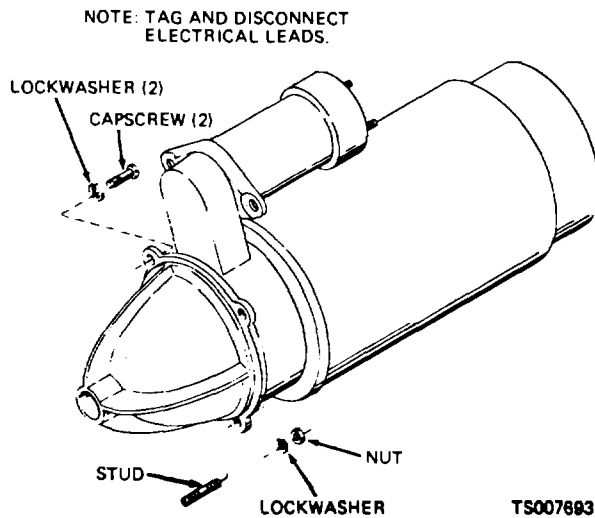

Figure 4-20. Starting Motor, Removal and Installation
(1) Disconnect the positive battery cable from the battery.
(2) Apply parking brake.
(3) Disconnect and tag the electrical leads from the starting motor.
(4) Remove the starting motor from the flywheel housing as shown in figure 4-20. Pull straight out on the starting motor to disengage the pinion gear from the ring gear.
(1) Install the starting motor as shown in figure 4-20.